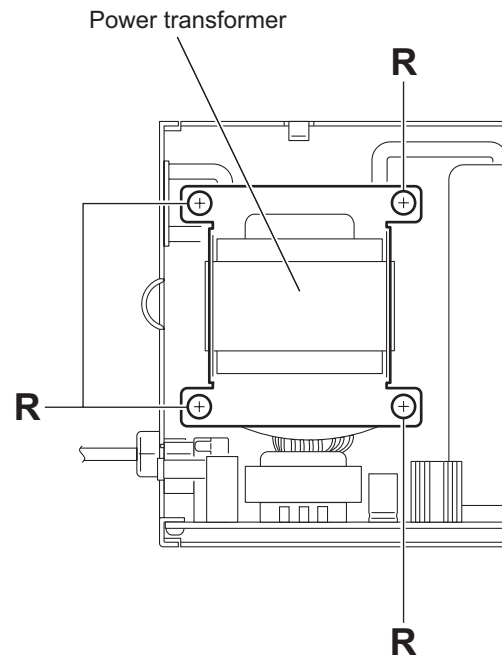

Fig.23
(2) From the top side of the main body, remove the four screws **R** attaching the power transformer. (See Fig.23.)